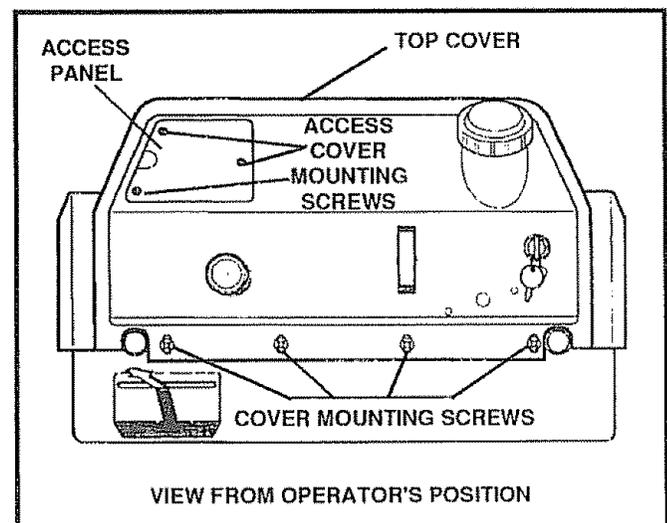

FIG. 17
- Reconnect spark plug wire and replace access cover (See Fig. 17 on page 17).
The spark plug is housed in the engine compartment under the top cover (See Fig. 17) and cannot be seen under normal conditions.